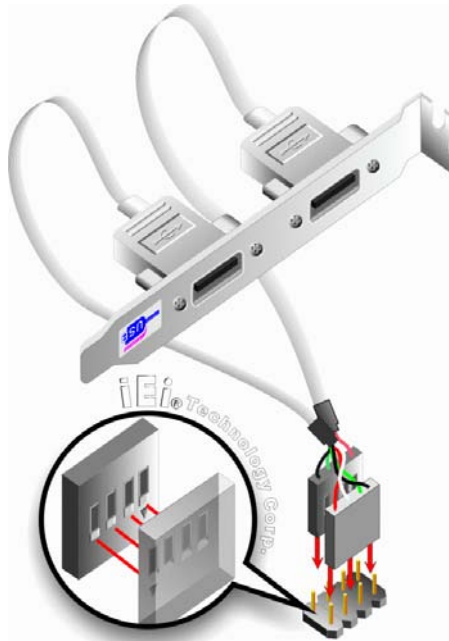

Figure 4-12: Dual USB Cable Connection
Step 3: Insert the cable connectors Once the cable connectors are properly aligned with the USB connectors on the KINO-G410, connect the cable connectors to the on-board connectors. See **Figure 4-12**.